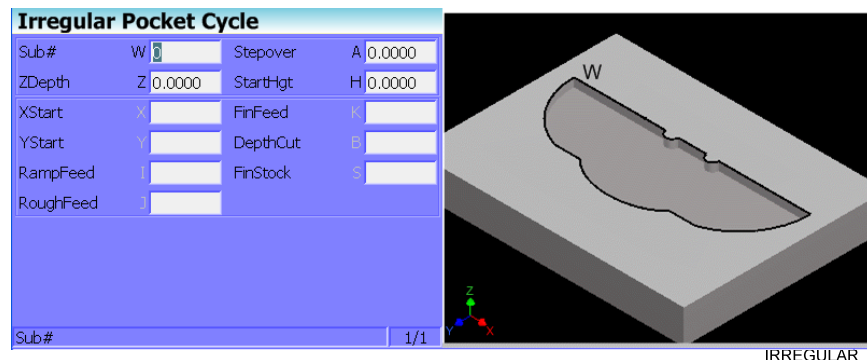

Figure 4-22, Irregular Pocket Cycle Graphic Menu
6. Highlight **Irregular** and press **ENTER** to display the Irregular Pocket Cycle Graphic Menu. Refer to **Figure 4-22**.